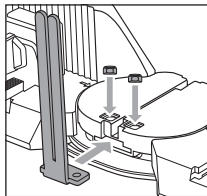

Fig. 2
- ◆ Push the first guide rod **7** into one of the fittings and place only one retaining nut **10** with the flat side first into the recess (see fig. 2).